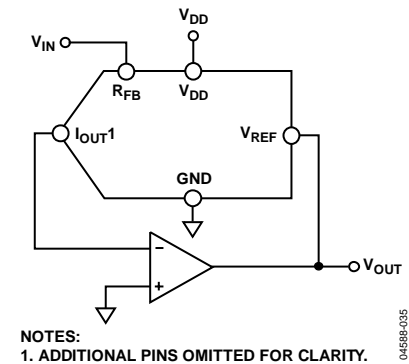

Figure 43. Current-Steering DAC Used as a Divider or Programmable Gain Element
Current-steering DACs are very flexible and lend themselves to many different applications. If this type of DAC is connected as the feedback element of an op amp and R_{FB} is used as the input resistor, as shown in Figure 43, then the output voltage is inversely proportional to the digital input fraction, D .
As D is reduced, the output voltage increases. For small values of the digital fraction (D), it is important to ensure that the amplifier does not saturate and the required accuracy is met. For example, an 8-bit DAC driven with the binary code $0x10$ (0001 0000), that is, 16 decimal, in the circuit of Figure 43, should cause the output voltage to be $16 \times V_{IN}$. However, if the DAC has a linearity specification of ± 0.5 LSB, then D can, in fact, have a weight in the range of $15.5/256$ to $16.5/256$, so the possible output voltage is in the range $15.5 V_{IN}$ to $16.5 V_{IN}$. This is an error of 3%, even though the DAC itself has a maximum error of 0.2%.